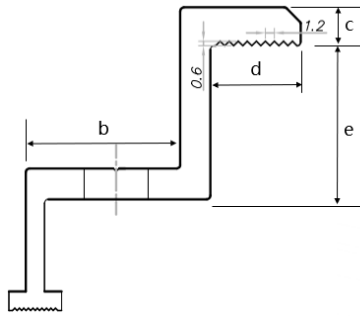

Figure 15 Cross section diagram of fringe clamp
- ⑦ To prevent modules from coming off the fixed device after installation, it is suggested to choose fringe and mid clamps and make contact with the A side of the frame with groove patterns. Suggest to have 9 patterns with a space between 2 adjacent patterns of 1.2mm and a depth of 0.6mm, as shown in figure 15.